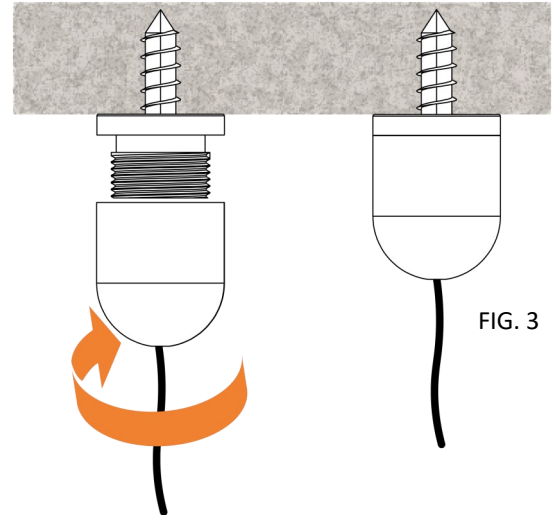

FIG. 3
- Screw the ceiling cup onto the fastened screw base (Fig. 3). Do so with both cups per fitting.